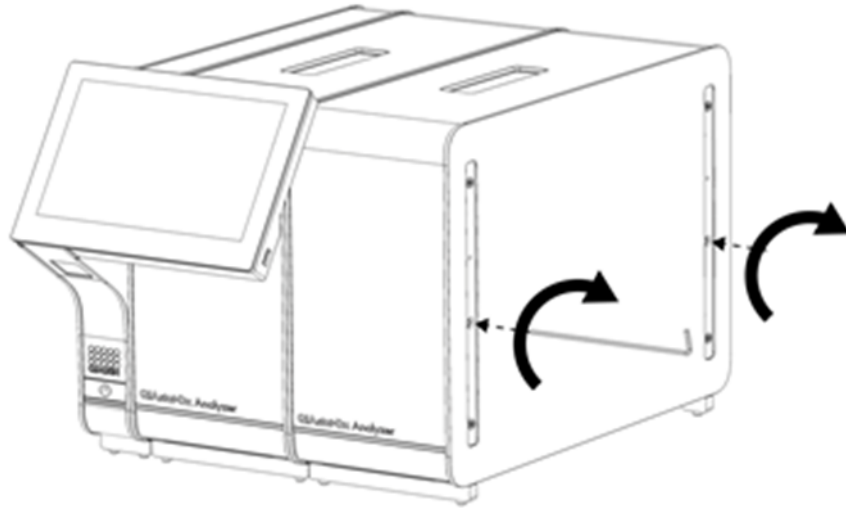

Figure 16. Aligning and attaching the additional Analytical Module.
4. Align the additional Analytical Module with the existing Analytical Module. Tighten the screws using the Analytical-Operational Module Assembly Tool delivered with QIAstat-Dx Analyzer 2.0 (Figure 16).